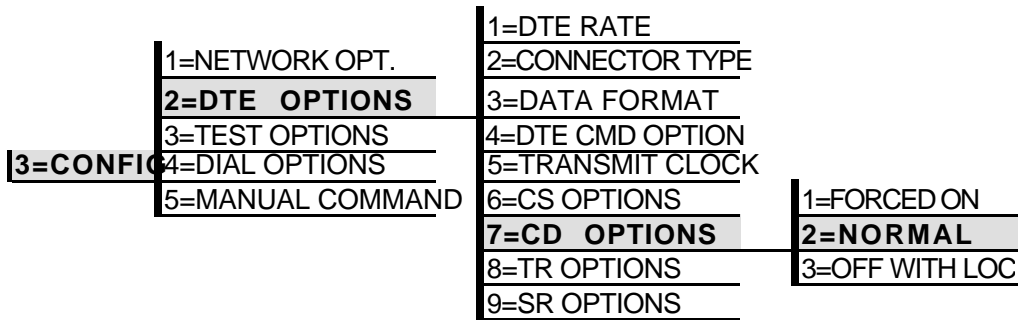

Figure 6-7
The CD OPTIONS menu is used to select one of three control modes for the receive line signal detector (CD) lead. The default factory setting is NORMAL (see Figure 6-7).